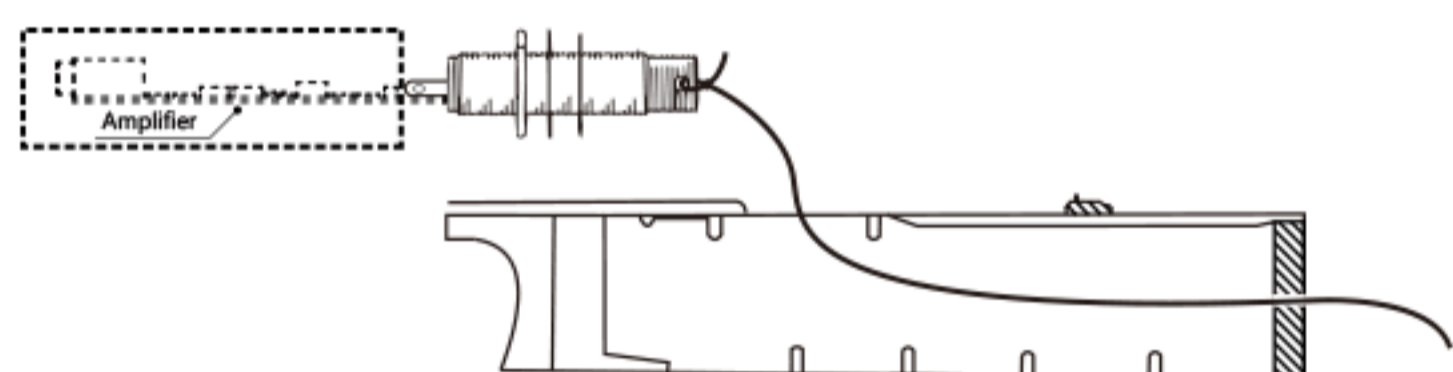

Fig.3
1. Install the front socket of the pickup by traction. First use a lead to drill through the hole drilled at the end of the guitar, and then exit from the sound hole. A small round hole with a lead tied to the head of the socket is passed through the lead. Enter a 12mm drill hole and pierce through the tail of the guitar to expose the head. The operation diagram is shown in Figure 3.